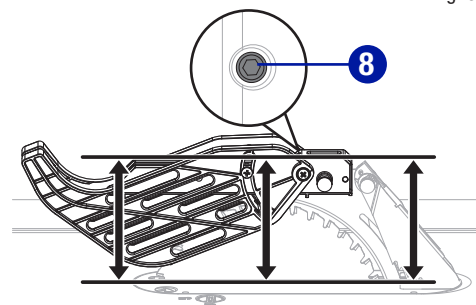

Fig. 8b
- Pull out the knob (1) on the blade guard and place the pins (2, 3) on the blade guard (4) into the slots (5, 6) marked on the riving knife (7).
- If blade guard is not parallel to table when riving knife is in uppermost position (through cuts), adjust the set screw (8) with 2.5 mm hex key (not supplied) as necessary. (Fig. 8b)